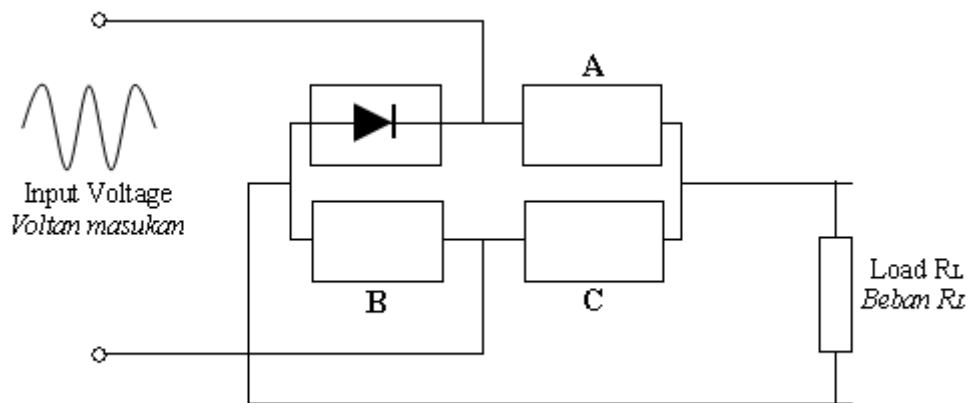

Figure 4
10. Figure 4 shows bridge rectifier circuit in a power supply circuit. Complete the circuit by drawing diode symbols in boxes A, B and C.